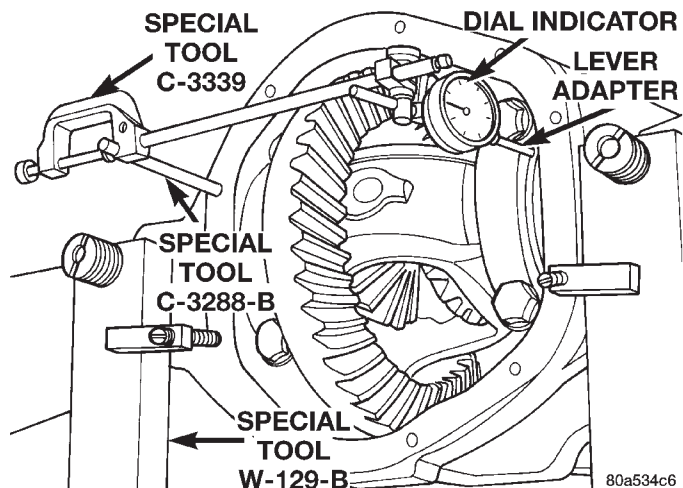

Fig. 26 Install Dial Indicator
- (8) Install a Guide Pin C-3288-B at the left side of the differential housing. Attach Dial Indicator C-3339 to guide pin. Load the lever adapter against the opposite side of the housing (Fig. 26) and zero the indicator.
(2) Install a Guide Pin C-3288-B at the left side of the differential housing. Attach Dial Indicator C-3339 to guide pin. Load the lever adapter against the opposite side of the housing (Fig. 26) and zero the indicator.